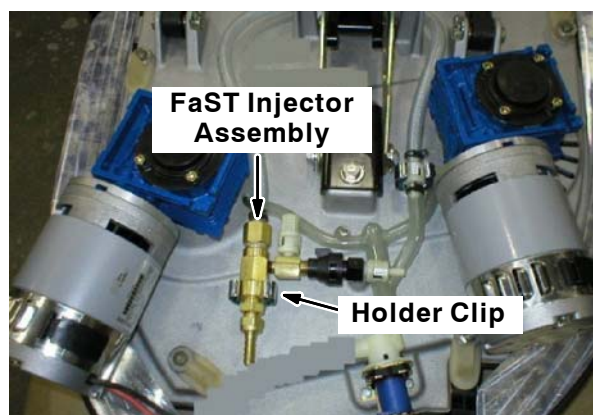

FIG. 1
1. Remove the FaST injector assembly from the holder clip. **Do Not** disconnect any hoses from the FaST injector assembly. Refer to Fig. 1.
NOTE: The photograph in Fig. 1 shows where the FaST injector assembly and holder clip are located on the T7/SSR machines. Refer to T3 and 2001HD parts manuals for locations of these parts on the T3 and 2001HD machines.